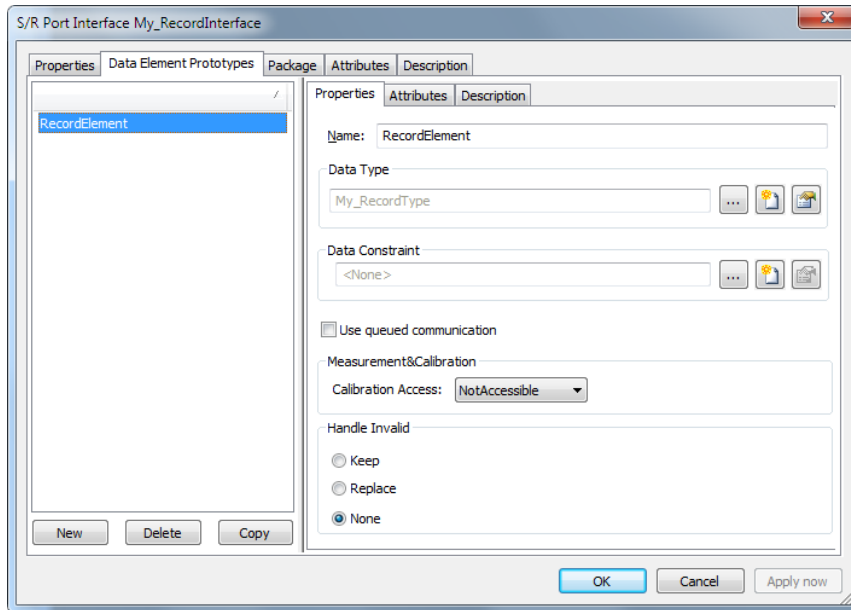

Figure 4-23 Sender/receiver port interface with record element
- A sender/receiver port interface is created, where the data element is named „RecordElement” and typed by „My_RecordType“ (see Figure 4-23).